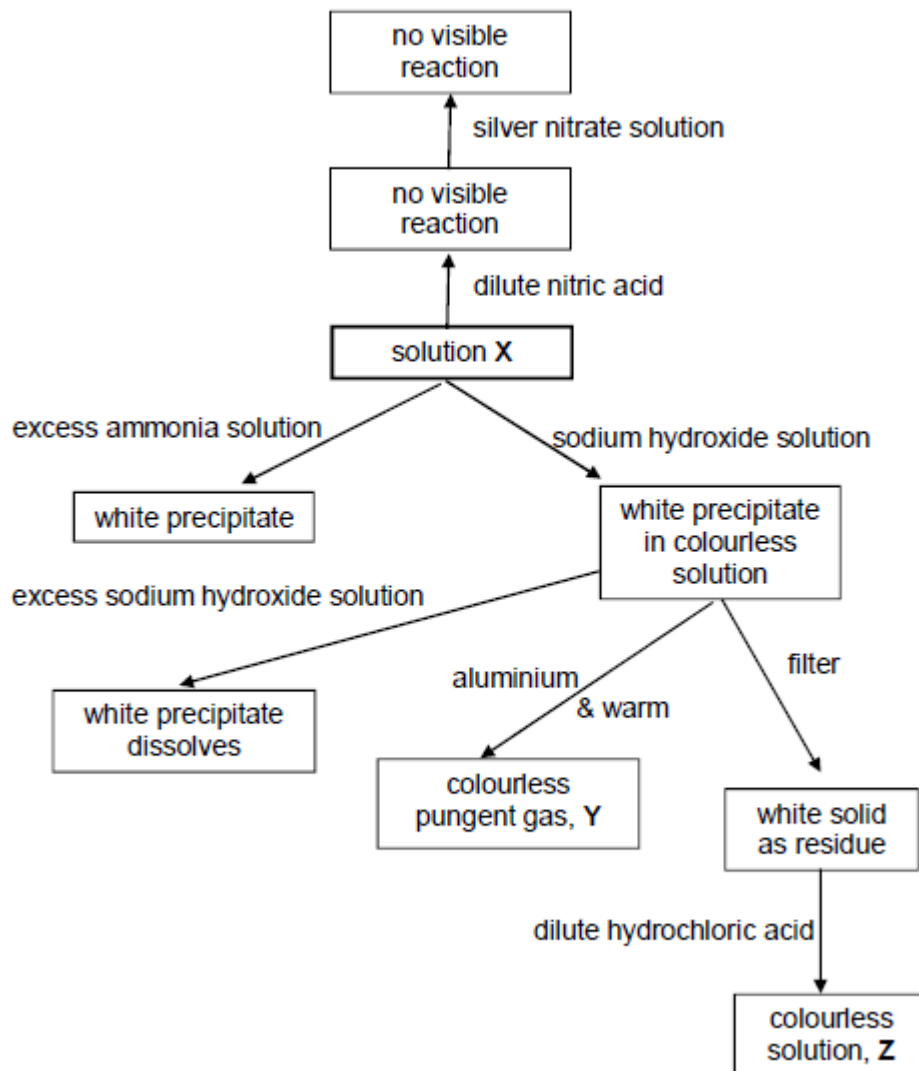

Fig 3.1
- A3** An unknown colourless solution, **X**, was spotted in the laboratory. Several tests were carried out as shown in Fig 3.1.